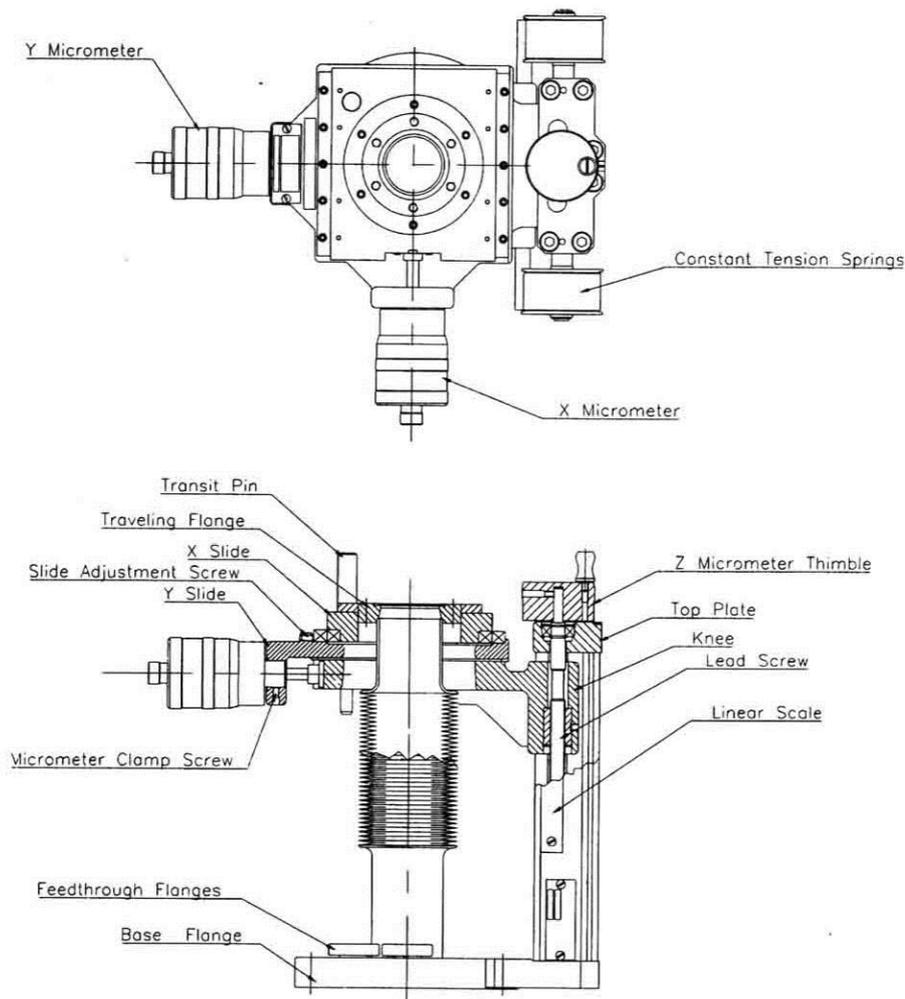

Figure 3
The vacuum compensation springs (see figure 3) are factory set for either vertical, horizontal or inverted orientation as requested at time of order.
- c. Attach the motor mount to the Y slide and secure in position by tightening the micrometer clamp screw (see figures 3 and 4).
a. Remove the Z Micrometer thimble (see figure 3) and attach the motorisation plate to the top plate of the HPT with MS cap head screws. The flexible coupling couples the motor output shaft to the lead screw by simply tightening the screws in the flexible coupling onto the lead screw.